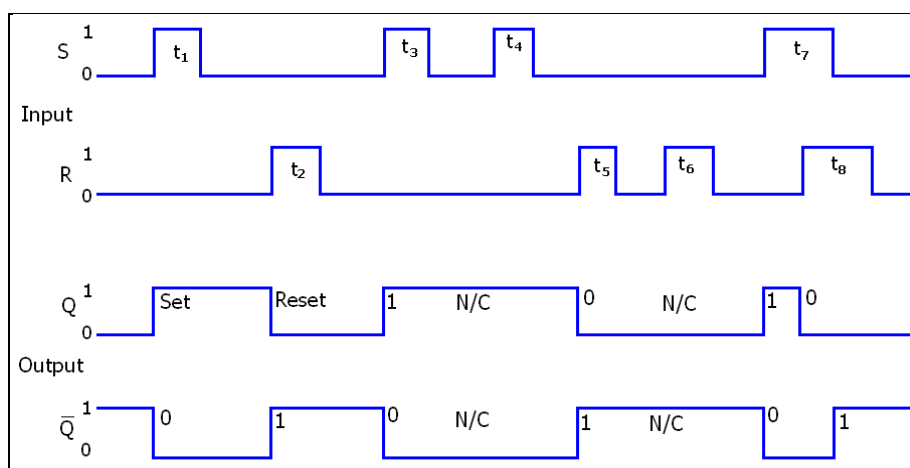

Fig. 3.3-6 NOR Gate RS-Flip/Flop Waveforms
Similarly, a high level to the R-input (pin 4) while the latch is reset will have no effect on Q-output because the other input (pin 5) is high (1). Fig. 3.3-6 depicts the dynamic waveforms showing the effects of two inputs (R) and (S) on the outputs (Q &  $\bar{Q}$ ).